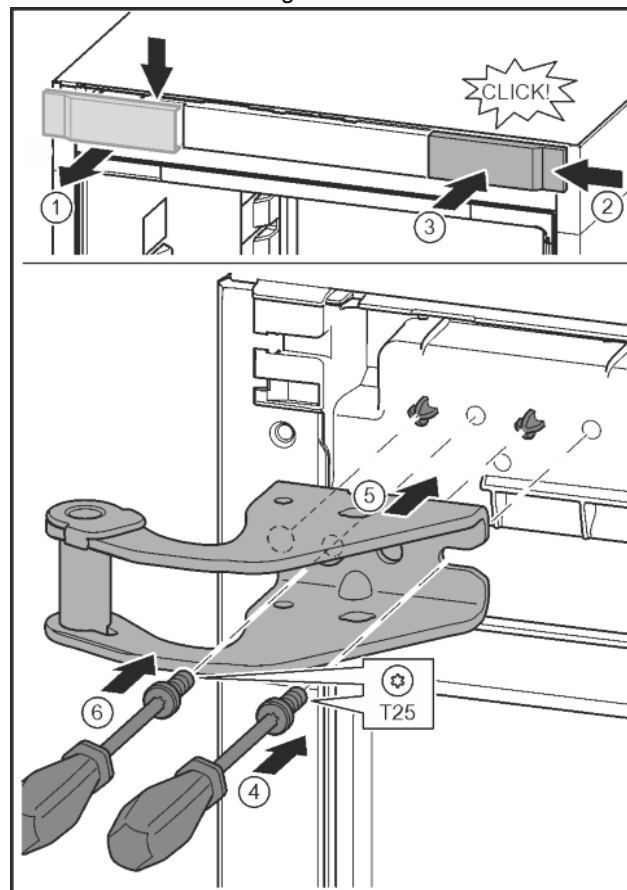

Fig. 12
- Release the cover and remove from the side. Fig. 12 (1)
- Rotate the cover 180° and clip onto the other side from the right. Fig. 12 (2)
- Click the cover into place. Fig. 12 (3)
- Position the screw with a T25 screwdriver. Fig. 12 (4)
- Position the upper bearing bracket. Fig. 12 (5)
- Tighten the screw. Fig. 12 (4)
- Insert the screw with a T25 screwdriver and tighten. Fig. 12 (6)